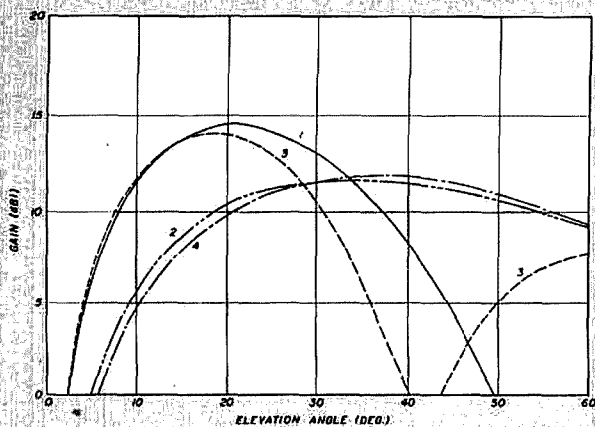

fig. 2A. Gain of a 3-element stack. Curve 1 — both, 2 — lower, 3 — upper, 4 — lower only (upper physically absent).
4. Mutual coupling or interaction between Yagi antennas tends to spoil the otherwise excellent properties of a single Yagi. This spoiling is most pronounced for low systems where spacings are small, not only to ground but between Yagi antennas (see for example figs. 2A, 2B, and 2C). This spoiling can be easily seen in the altered pattern(s) of the lower beam (curve 2) when the upper beam is physically present and (curve 4) when the upper beam is absent. You can also see the effect that stacking has on the  $F/B$  ratios (tables 2 and 3) and also (not shown) the effects on the calculated driving point impedances of both upper and lower Yagi antennas.